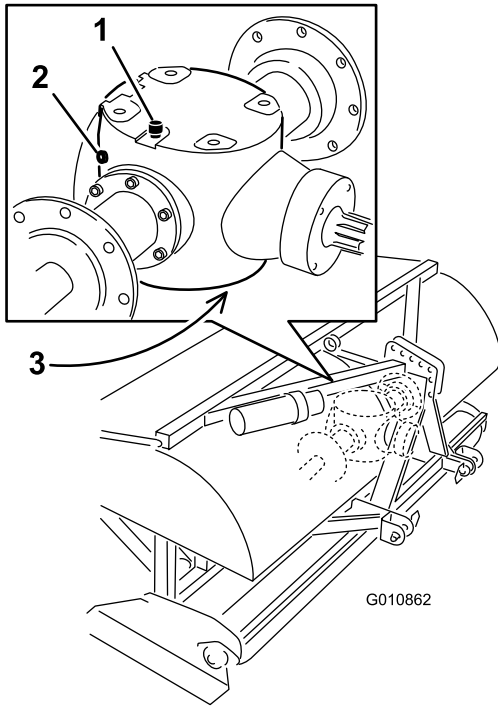

Figure 32
2. Remove the check plug from the gearbox (Figure 32).
3. Make sure oil is up to the bottom of the check plug hole in gearbox (Figure 32).
1. Clean debris from vent/fill plug and drain plug to avoid contamination (Figure 32).